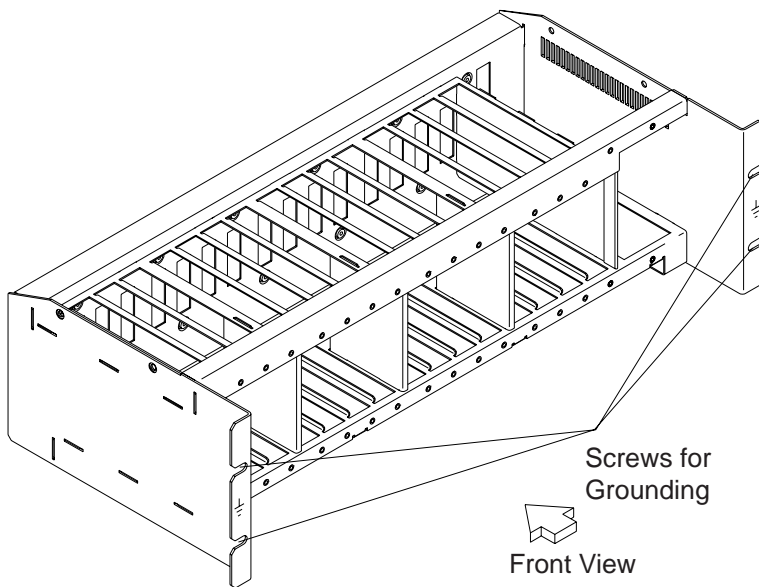

Figure 0-6. LCB Grounding via Screws
- Electrical continuity is assured, between the rack ground and the Line Connection Box (LCB), if LCBs are present. This operation must be performed before any network connection (see Figure 0-6).